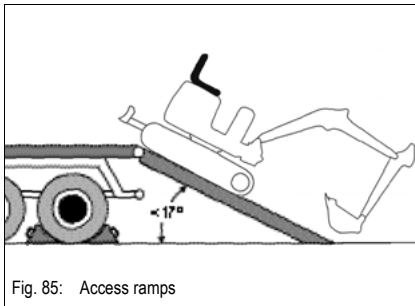

Fig. 85: Access ramps
- Rotate the upper carriage to the rear (see figure 85)